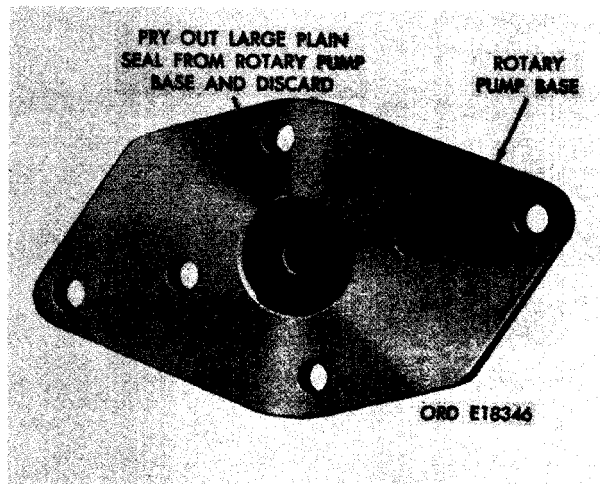

FIGURE 419. REMOVING OR INSTALLING LARGE PLAIN SEAL.
- (5) Remove large plain seal from base (fig. 419).